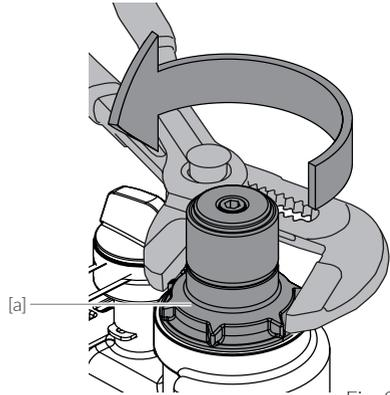

Fig. 9.10
- / Fig. 9.10: Turn the screw cap [a] in the direction of the arrow using a pair of valve pliers and loosen it from the housing